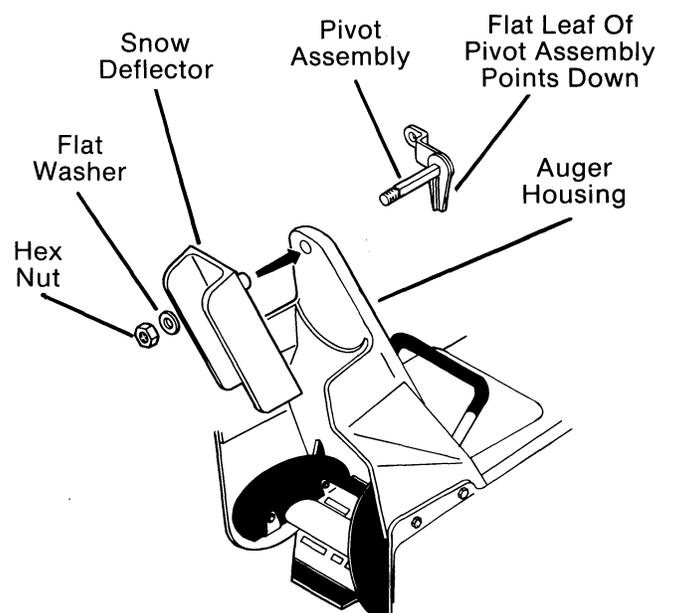

FIG. 4
- J. Remove pivot assembly from snow deflector. With the long end of the snow deflector pointing down, insert snow deflector pivot boss into hole in front-top of auger housing. See (Fig. 4)
- K. With flat leaf of pivot assembly pointing down from rear of auger housing (Fig. 4), insert the square shaft of pivot assembly through the square hole in the snow deflector. Push through to the front.
- L. Slide flat washer on end of pivot assembly shaft and secure in place with a hex nut. (Fig. 4)